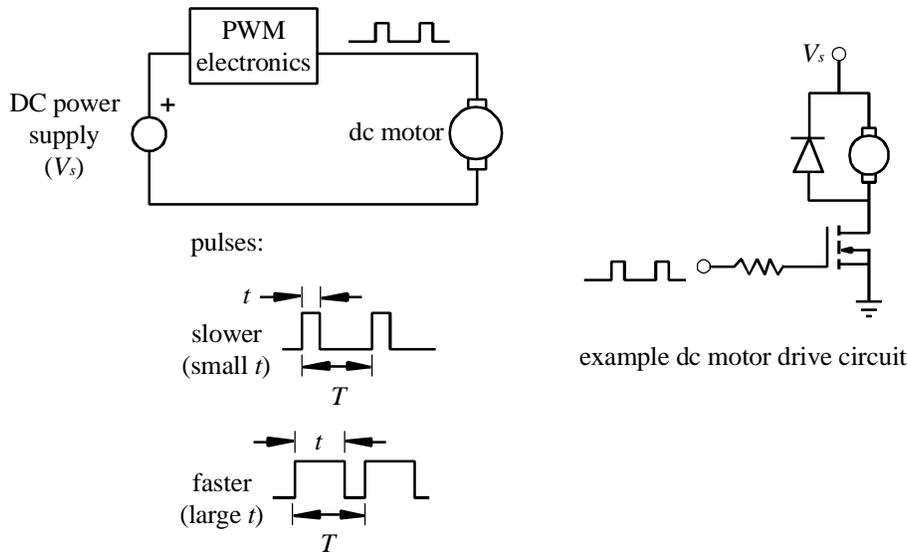

Figure 11.1 Pulse-width Modulation (PWM)
**Pulse width modulation (PWM)** offers a very simple way to control the speed of a dc motor. Figure 11.1 illustrates the principles of operation of PWM control. A dc voltage is rapidly switched at a fixed frequency  $f$  between two values ("ON" and "OFF"). A pulse of duration  $t$  occurs during a fixed period  $T$ , where